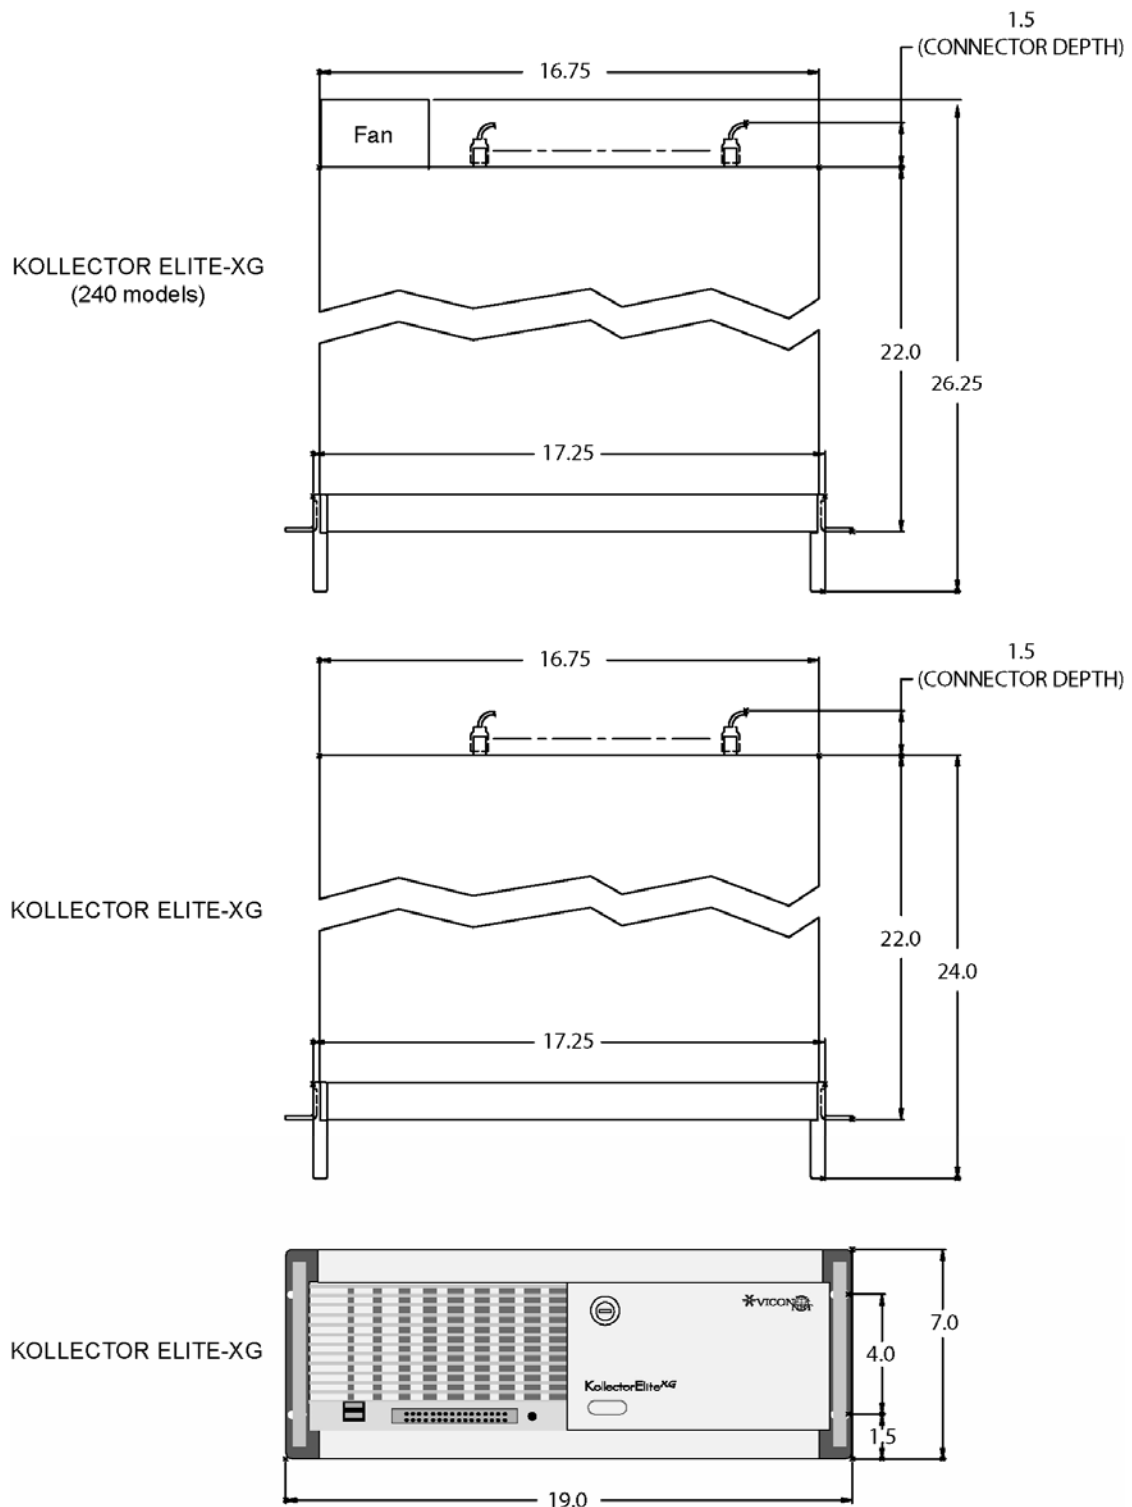

Figure 10-1: Kollector Elite Dimensions
Dimensions	Height (H): 7.0 in. (178 mm) Width (W): 19.0 in. (483 mm) Depth (D): 22.0 in. (558.8 mm) for 120 fps models 24.25 in (615.95 mm) for 24/480 fps models with extra fan Note: Refer to Figure 10-1.